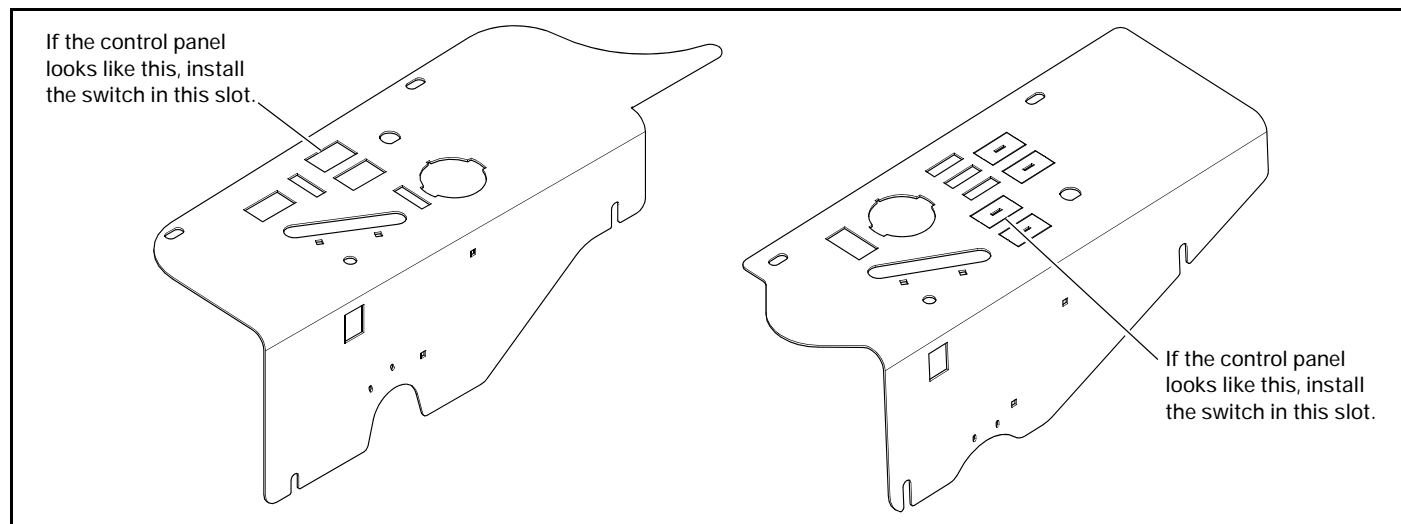

FIG. 6
12. Determine the style of control panel on the mower. Locate the appropriate slot in the control panel. Cut and remove the part of the control panel decal that covers the slot. Fig. 6